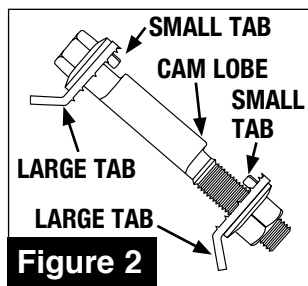

Figure 2
6. Place one tabbed washer on #84120 bolt with small tab lined up with cam lobe on bolt (See Fig 2). Install bolt and washer with small tab facing control arm. Place second washer over threads on bolt, ensuring small tab is facing control arm. Install nut.